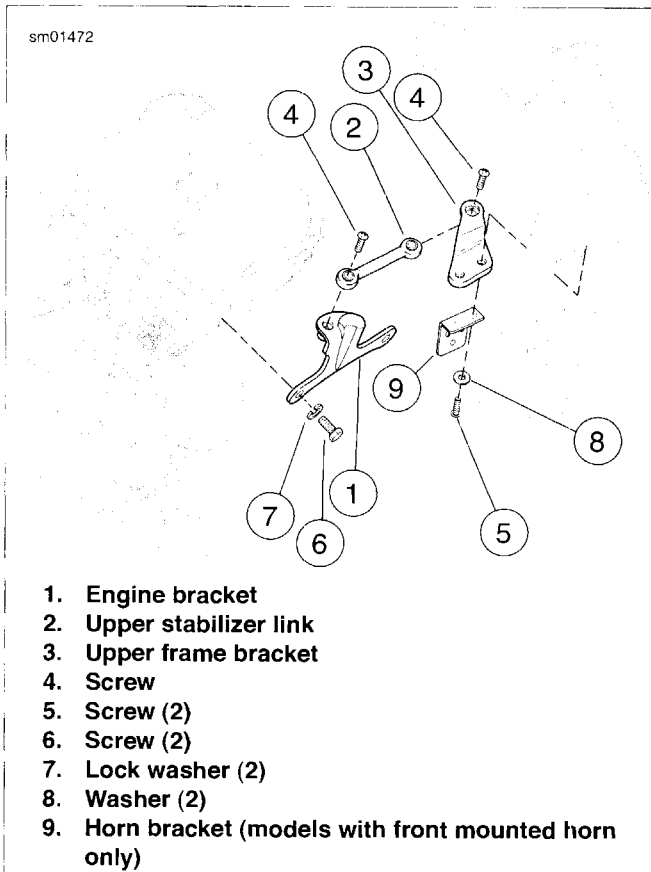

Figure 3-42. Upper Front Stabilizer Link Assembly (typical)
- d. Throttle Position (TP) sensor connector [88].
12. See Figure 3-42. Remove upper front stabilizer link and frame bracket:
- a. Remove screw (4) securing stabilizer link (2) to engine bracket (1).
- b. Remove screws (5) and washers (8). Remove horn bracket (9) (models with front mounted horn) and frame bracket (3) with stabilizer link.